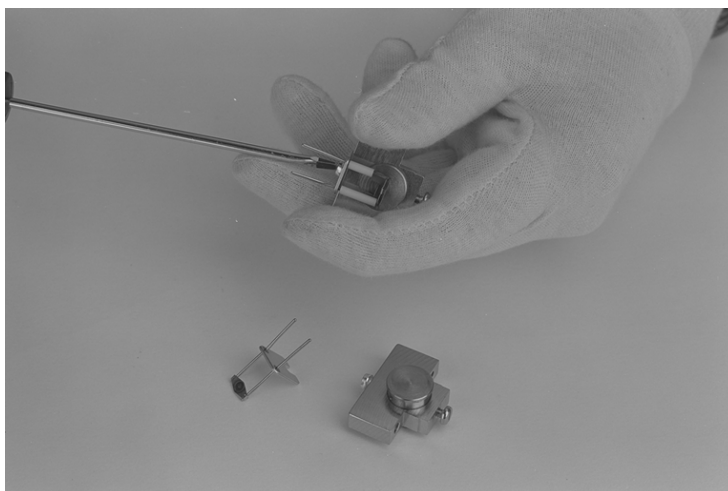

Figure 4-13. Removal of filament and trap
6. Remove the filament and the trap by removing the fixing screws (see Figure 4-13).